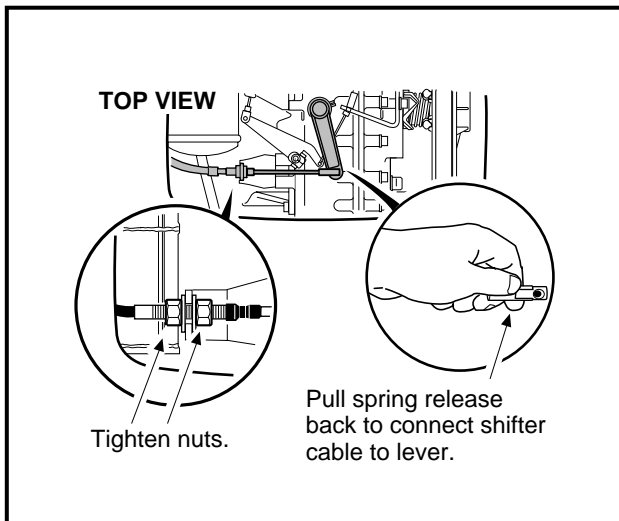

Figure 16-97 Connect Shifter Cable
22. Position the shifter cable in the shifter cable mounting bracket on the transaxle and tighten the mounting nuts to 22 ft-lb (29.8 N·m). Connect shifter cable rod end to the shifter arm (**Figure 16-97, Page 16-38**).